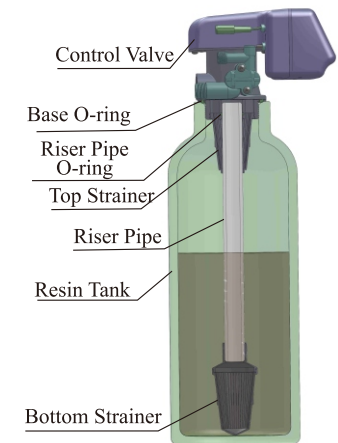

Figure 1-1
- ①The filter or softener should be located close to drain.
- ②Ensure the unit is installed in enough space for operating and maintenance.
- ③Brine tank needs to be close to softener.
- ④The unit should be kept away the heater, and not be exposed outdoor. Sunshine or rain will cause the system damage.
- ⑤Avoid installing the system in circumstance of acid/alkaline, magnetic or strong vibration, because above factors will cause the system disorder.
- ⑥Do not install the filter or softener, drain pipeline or overflow pipe in circumstance where temperature may drop below 5°C, or above 50°C.
- ⑦Install the system in the place where with the minimum loss in case of water leakage.
① Install control valve
a. As the Figure 1-1 shows, select the riser pipe with 26.7mm OD, glue the riser pipe to the bottom strainer and put it into the mineral tank, cut off the exceeding pipe out of tank top opening and make external rounding.